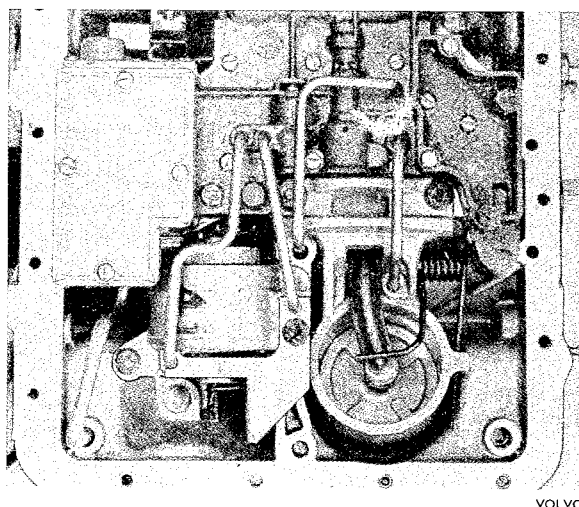
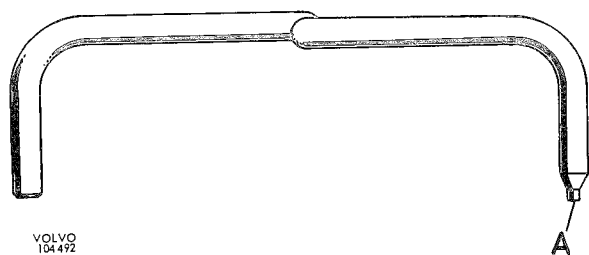

Fig. 4-116. Retention of front and rear pump strainers
Fig. 4-117. Oil tube for valve bodies system, vehicle with B 30 E and F engines
28. Fit the four oil tubes according to Fig. 4-116. Note that the oil tube for releasing the front control cylinder is shaped like (A, Fig. 4-117). This end is fitted in the valve bodies system.